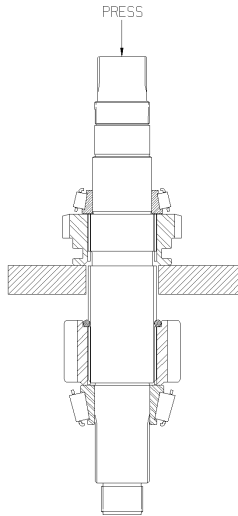

Fig. 26
2. Press the remaining direct-drive gear support bearing off of the shaft as shown. *See Fig. 26.*